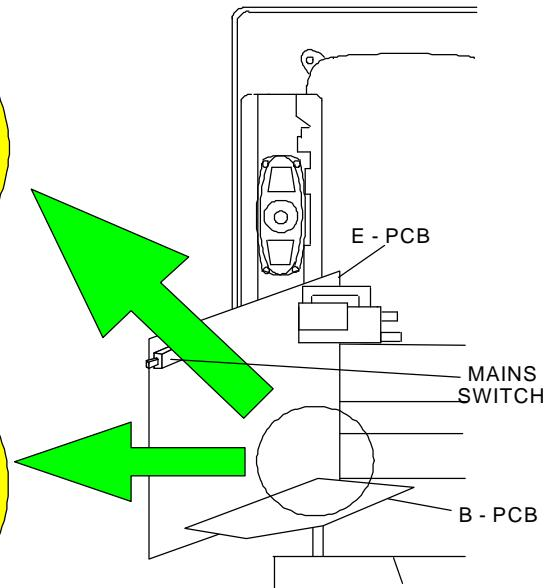

Fig.7.
- i. Release the respective wiring clips and rotate the chassis horizontally through 180° anti-clockwise, the lift the FBT side of the chassis as shown in Fig.7.